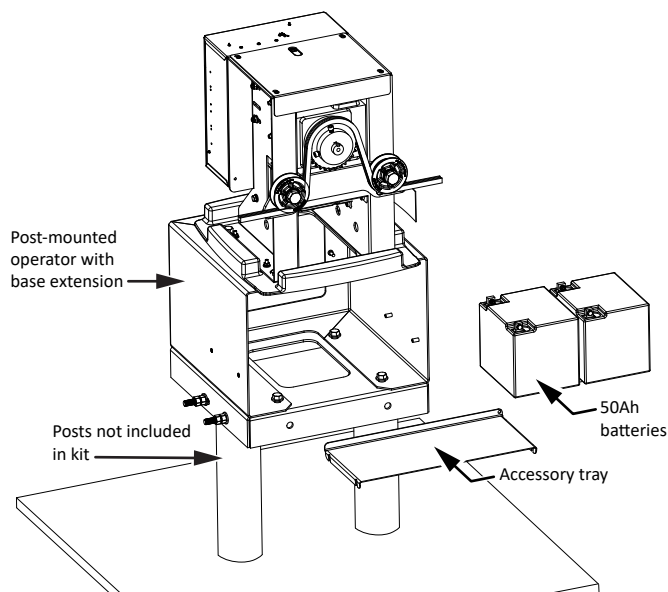

Figure 30. Unwired Extended Battery Backup Kit
3. To access the 8Ah batteries and disconnect its wires, cut the two black wire ties and slide the 8Ah batteries through the access window. Another option is to remove the four screws that hold the control box to the chassis. See Figure 30.